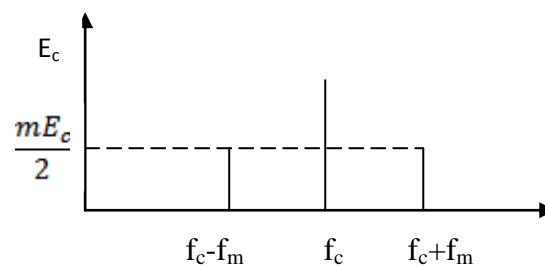

Fig. 7.5 AM frequency domain
- Each modulating frequency produces two side frequencies. Those above the carrier are called **upper side band** and the other is **lower side band**. Fig.7.5 shows AM frequency domain. (carrier, usb , lsb)